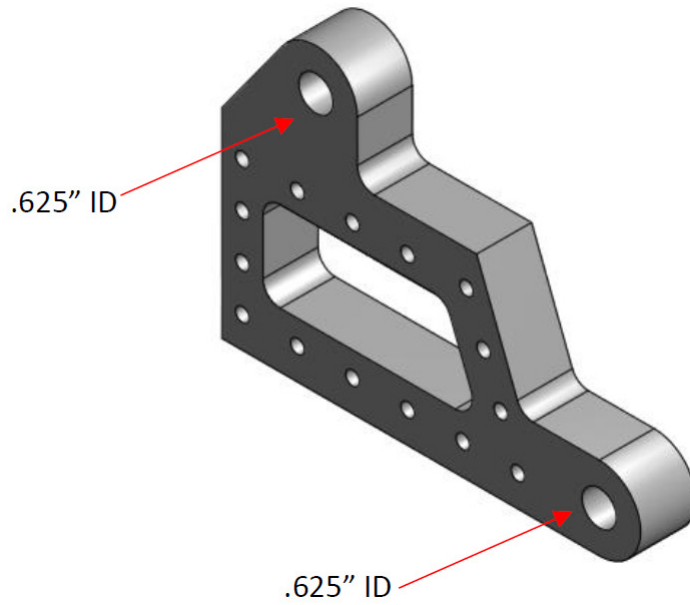
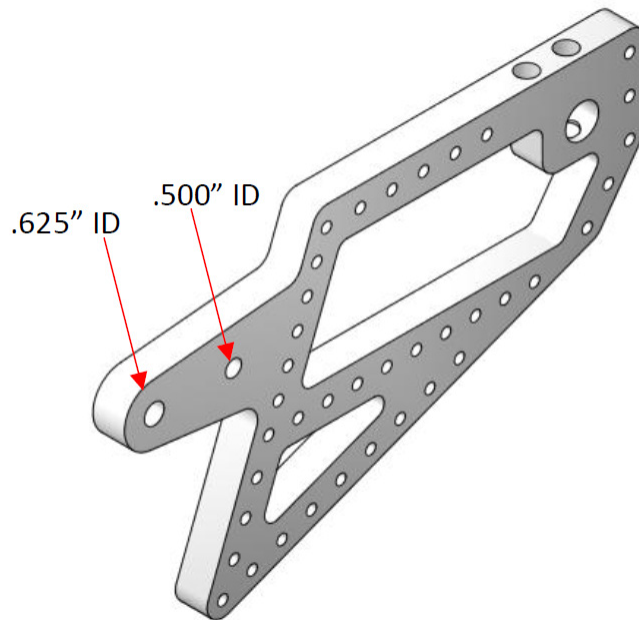

FIGURE 5.9-8: 10000 Front Strut Fitting 13A01082-001
FIGURE 5.9-9: 10000 Main Strut Fitting 13A01161-002
A. This repair scheme is to be used to repair the Ø.625" bolt holes on the main and front strut fittings when they have become larger than nominal. The fix should be considered optional for holes Ø.628"- Ø.645" and mandatory for holes over Ø.645." Reference Figure 5.9-8 and Figure 5.9-9 for details.
1. Make or purchase bushing (1008698). Measure the outside diameter (OD) of the bushing. If making the bushing, it should be made from 2024-T3 with an OD of 0.75" + .035, - .0005, an ID of 0.625" + .002, -.0 and .990" ±.003 long with a .04"x45° chamfer on one end to help align with the hole when pushing it in.
B. This repair scheme is to be used to repair the Ø.500" bolt holes on the main strut fittings P/N 13A01161-002 when they have become larger than nominal. The fix should be considered optional for holes Ø.503"- Ø.520" and mandatory for holes over Ø.520." Reference Figure 5.9-9 for details.
1. Make or purchase bushing (1012018). Measure the outside diameter (OD) of the bushing. If making the bushing, it should be made from 2024-T3 with an OD of 0.6245" +.0005, -.0000 an ID of 0.500" + .002, -.0 and .990" ±.003 long with a .04"x45° chamfer on one end to help align with the hole when pushing it in.